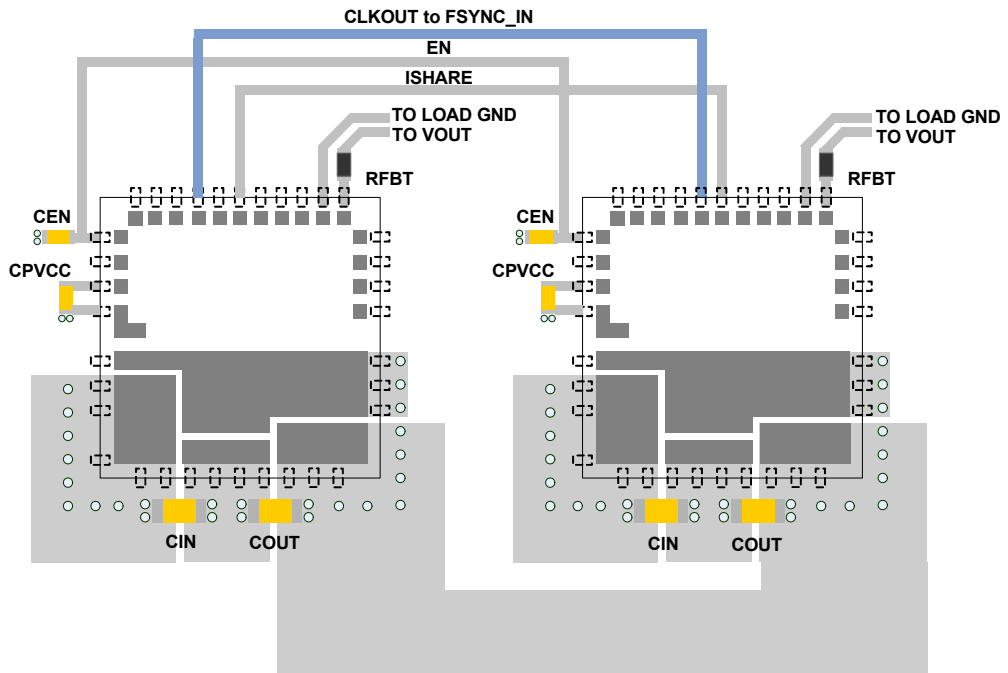

FIGURE 36. RECOMMENDED LAYOUT FOR DUAL PHASE SETUP
- Place modules such that pins 1-11 point away from power pads (PD1-4) so that signal busses (EN, ISHARE, CLKOUT-to-FSYNCIN) can be routed without going under the module. Run them along the perimeter as in Figure 36.
- Keep remote sensing traces separate, and connect only at the regulation point. Four separate traces for VSEN\_REM- and RFBT (which stands for remote feedback) as in the example in Figure 36.